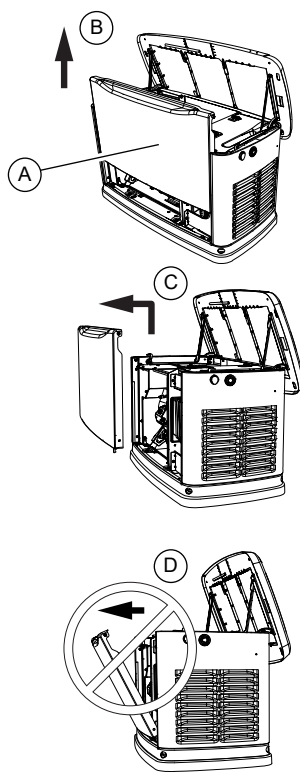

Figure 2-4. Remove Front Access Panel
See Figure 2-4. Remove front access panel (A) by lifting straight up and out once lid is open.